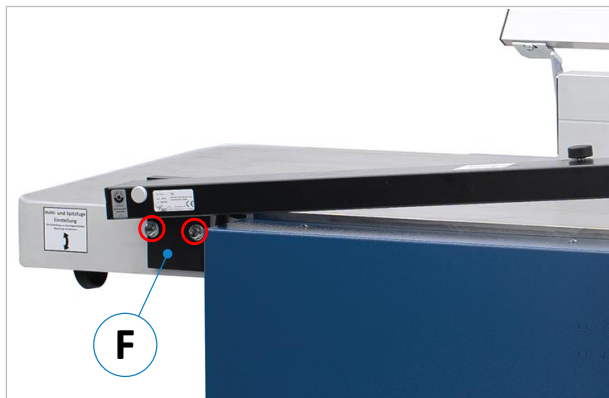

Figure 3: Fitting the guide arm
After you have determined the mounting position and made the two M8 mounting holes, attach the guide arm of the protective device (still without the hinged protective cover) to the machine body via the mounting plate (F) and with the appropriate M8 screws (see ⇒ Figure 3).